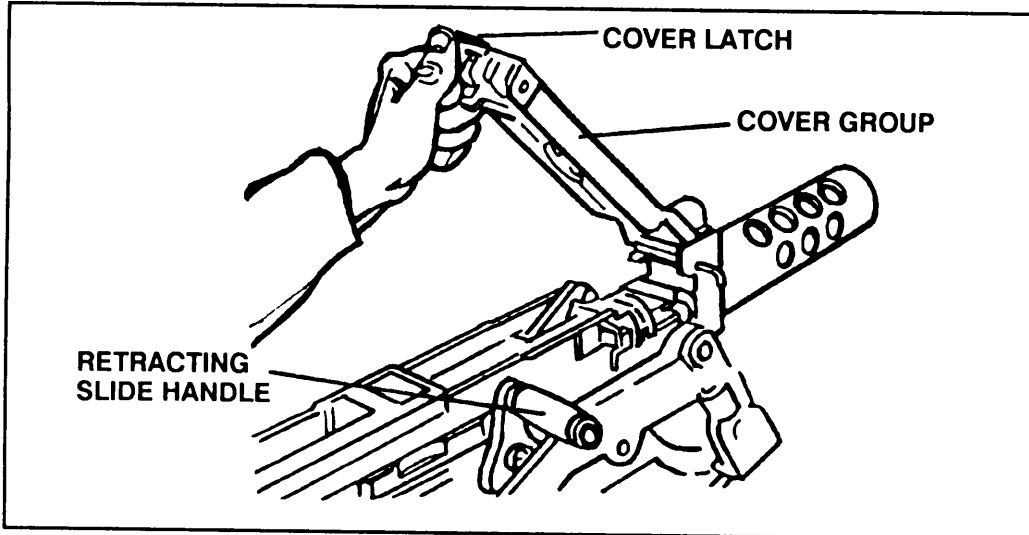
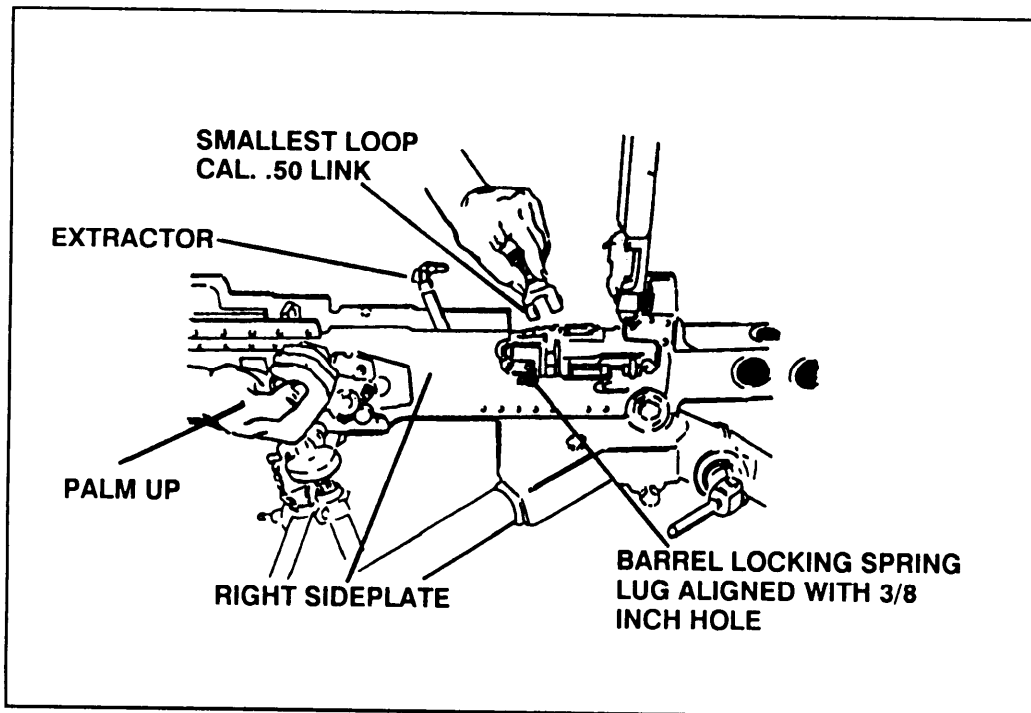
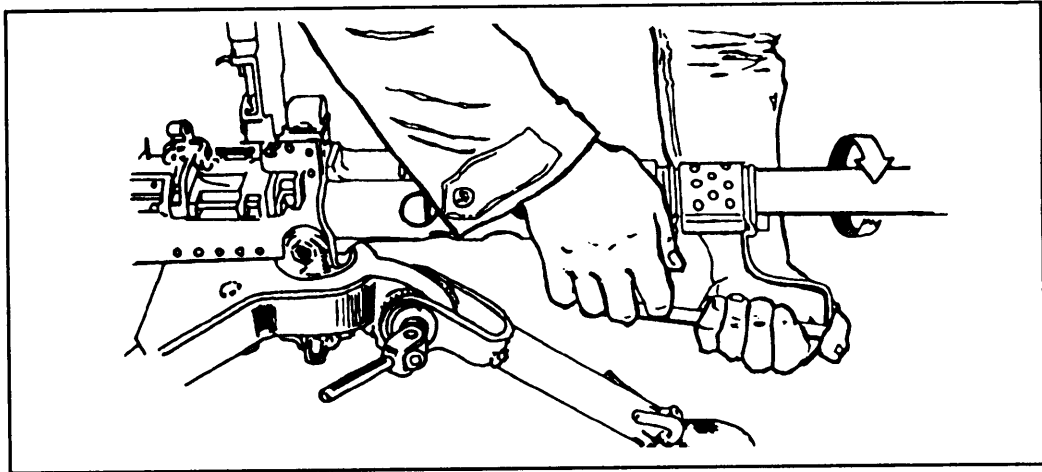

Figure 2-3. Raising the cover.
Figure 2-4. Aligning the lug on the barrel locking spring with the 3/8-inch hole in the right sideplate.
Figure 2-5. Removing the barrel.
a. **Barrel Group.** Turn the cover latch and raise the cover group (Figure 2-3). Grasp the retracting slide handle with the right hand, palm up, and pull the recoiling parts to the rear until the lug on the barrel locking spring aligns with the 3/8-inch hole in the right sideplate of the receiver (just below the feedway exit). The barrel can be turned only when the lug is aligned with the 3/8-inch hole. Place the smallest loop of a caliber .50 link, or suitable spacer, between the trunnion block and the barrel extension (Figure 2-4). This holds the barrel locking spring lug aligned with the 3/8-inch hole in the right sideplate. Unscrew the barrel from the receiver (Figure 2-5, page 2-4). Be careful not to damage the